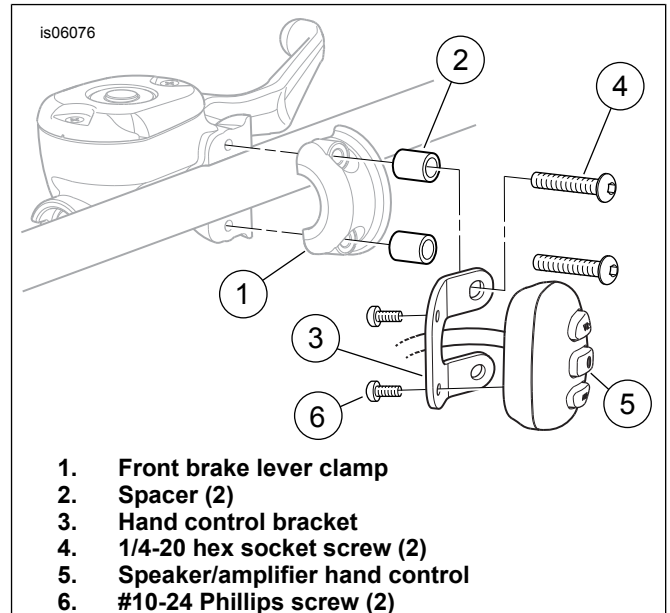

Figure 2. Hand Control and Bracket Installation
1. See Figure 2. Remove the front brake lever clamp screws from the vehicle. Remove and retain the clamp (1). The screws can be discarded.
2. Obtain the hand control bracket (3), two spacers (2), two #10-24 Phillips screws (6) and two 1/4-20 x 44.4 mm (1.75 in) long hex socket head screws (4) from the kit.
3. Route the hand control (5) wire harness through the center of the hand control bracket (3) as shown.
5. Install the hand control (5, part of the wire harness assembly) to the bracket with the #10-24 screws (6), and tighten securely.